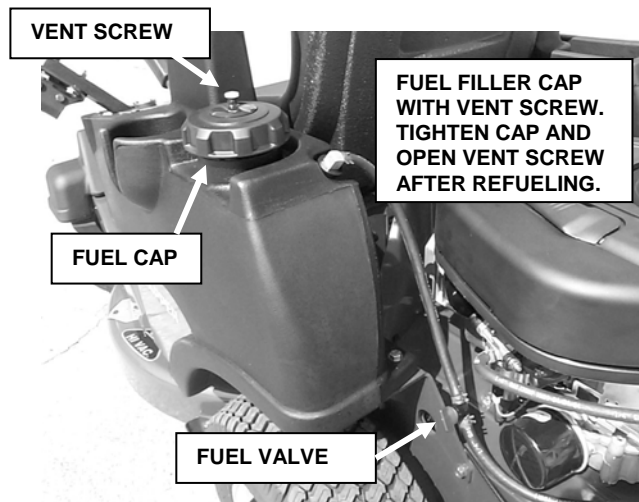

FIGURE 2.2
2.1.6. Add fuel to tank with machine out of doors where fumes can safely dissipate. Refer to engine owner's manual for fuel specifications. Make sure fuel filler cap is tight after filling tank. Open vent screw on fuel cap by turning counterclockwise. Also open fuel valve, located in fuel line. See Figure 2.2.
4. Make sure vent screw on fuel cap and fuel valve in fuel line are both open. See Figure 2.2.